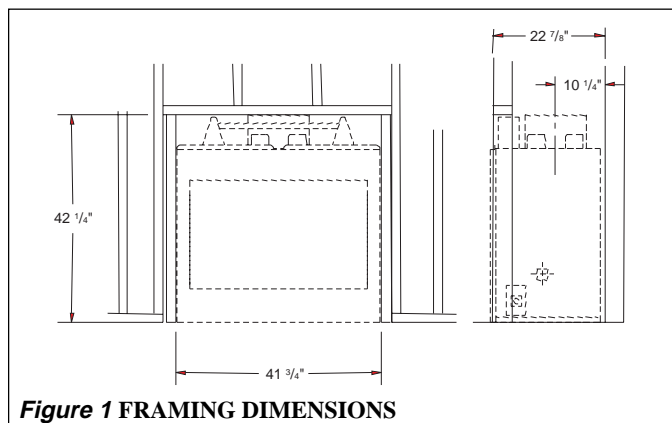

Figure 1 FRAMING DIMENSIONS
STEP 1: Frame the opening for the firebox using the dimensions shown in Figure 1, Figure 2, or Figure 3, page 3.